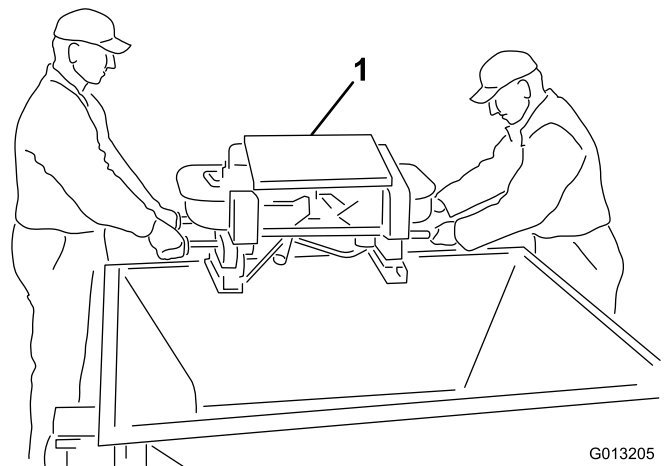

Figure 5
4. This step requires two people. Lift the twin spinner out of the hopper using the twin spinner outer grab handles. Place the twin spinner unit on the ground (Figure 5).